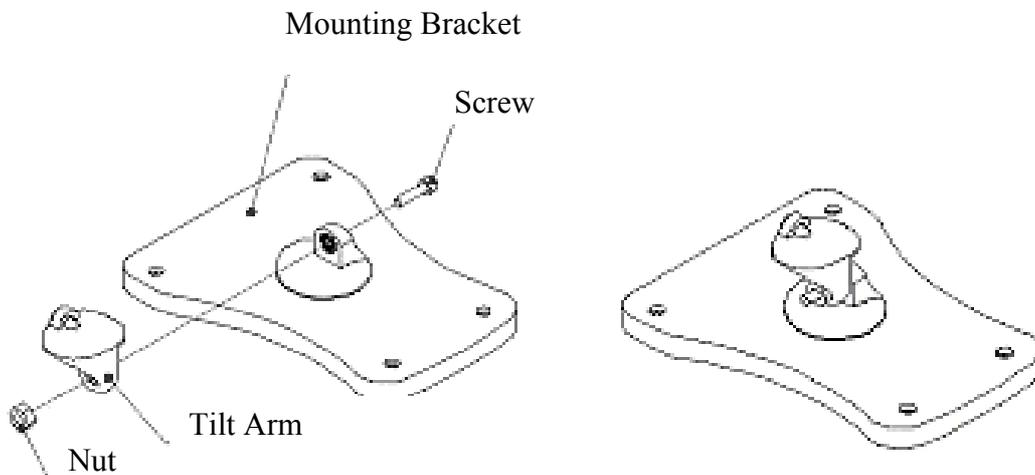

Figure 12-4: Mounting bracket assembly
2. Holding the nut in place, attach the tilt arm to the mounting bracket using a 4 mm socket head bolt. Hand-tighten the bolt only. See Figure 12-4.